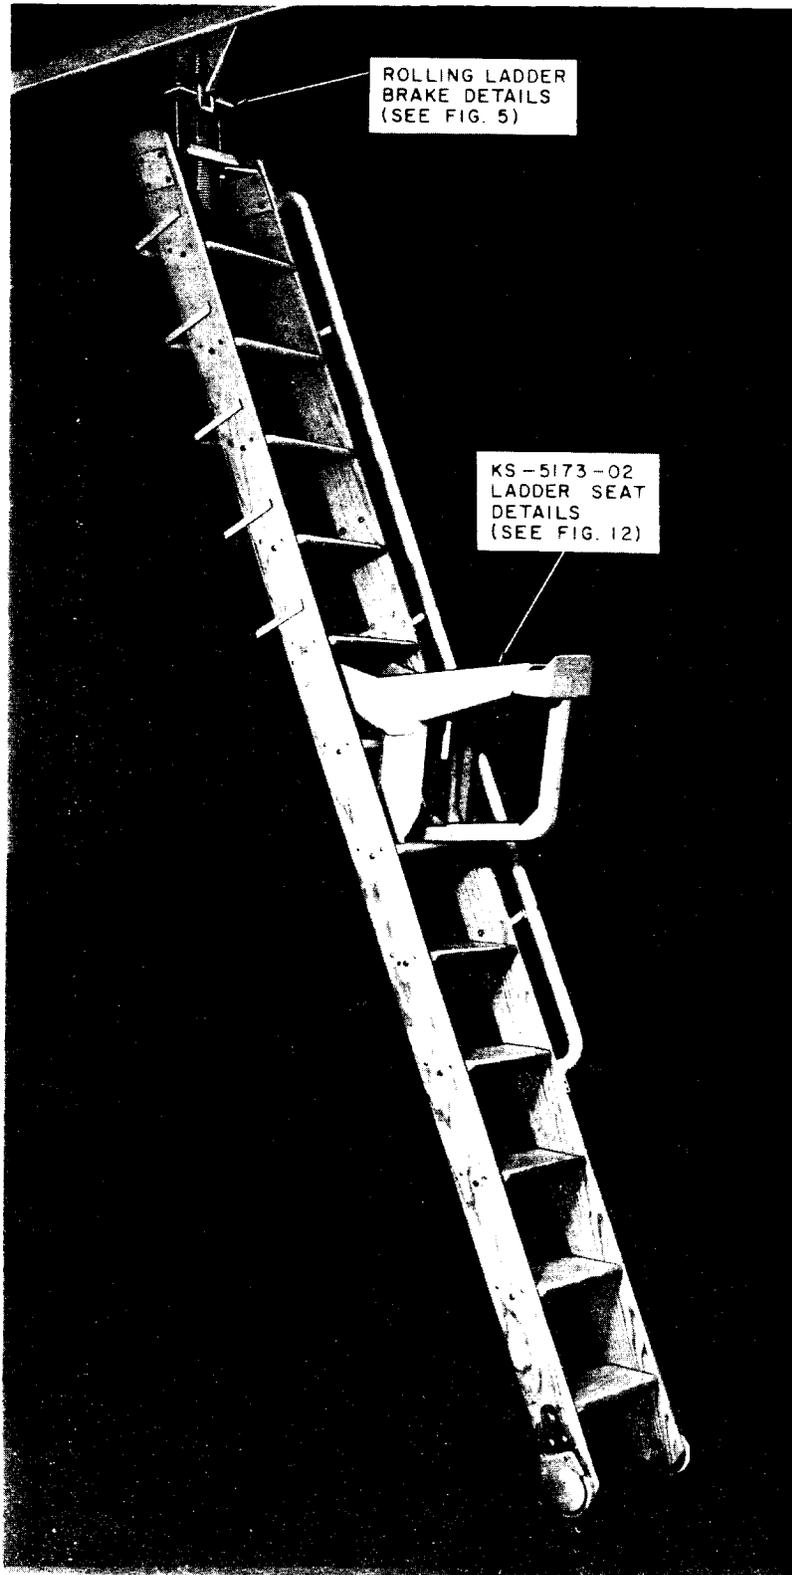

Fig. 11—KS-5173-02 Ladder Seat Installed on Typical Straight-Type Rolling Ladder
3.42 Ladder seats are used only on track-supported rolling ladders, Fig. 11. The ladder seat is removed as soon as it is no longer required. Before placing a metal ladder seat on a ladder, check for the lock handle to be in the released position. This position may be either vertical or horizontal depending on the model of the ladder seat.